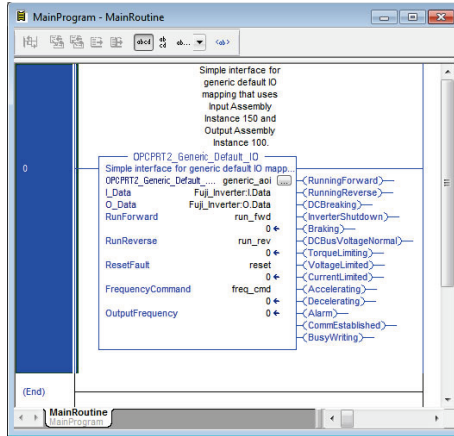

Figure 61: Configure Generic Default AOI
- 10) Edit the add-on instruction according to Figure 61.